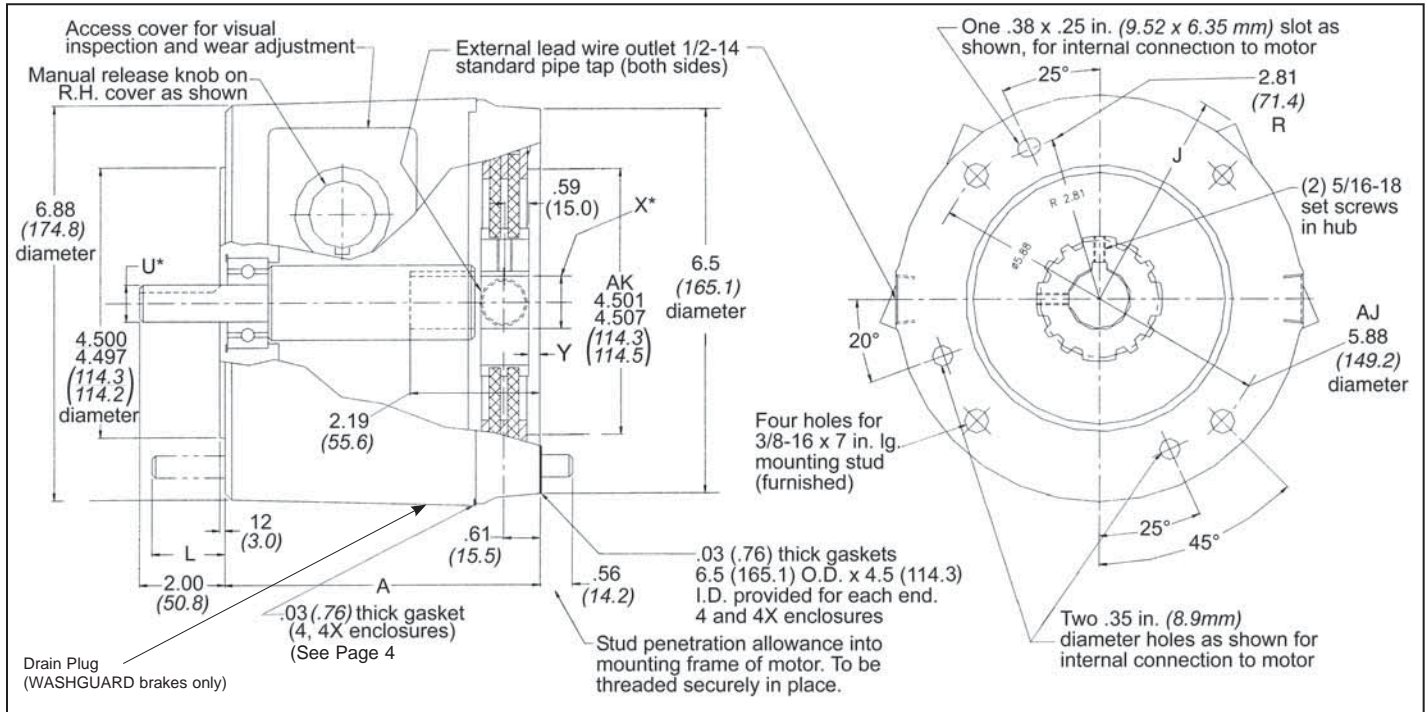

Figure 1 Position hub to Y as shown:
**7** A. Slide housing and shaft assembly onto mounting studs, rotating shaft until keyway is aligned. Be sure housing is assembled with access windows in same position as shown in Figure 1, page 1.